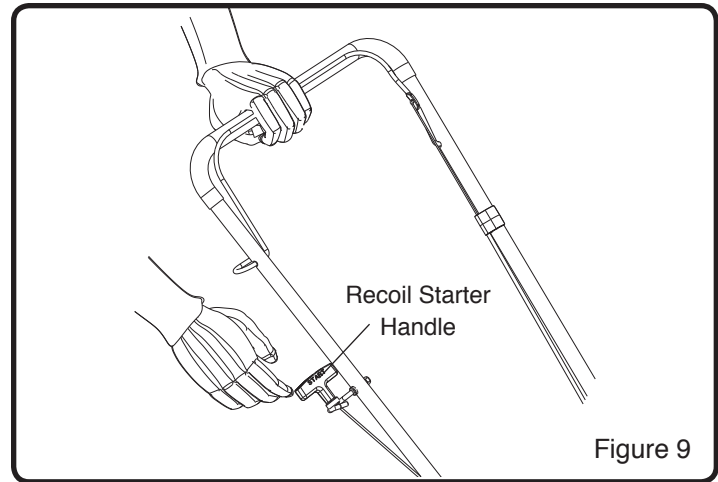

Figure 9
3. Firmly grip the Trimmer handle with your left hand, engaging engine control lever. (See Figure 9)
4. Firmly grip the Recoil Starter Handle with your right hand. (See Figure 9)